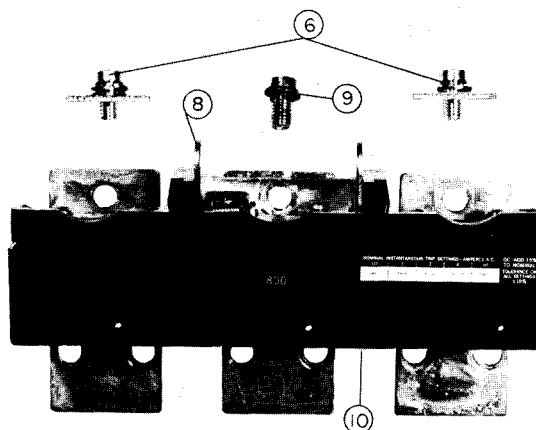
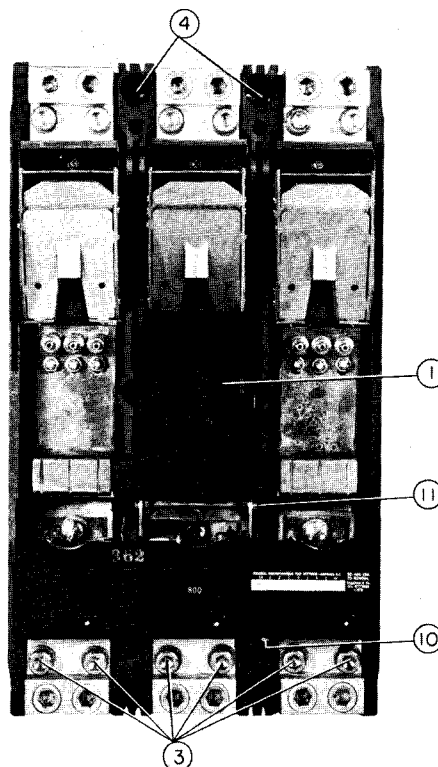

Fig. 2 — 3 Pole Trip Unit
Fig. 3 — Front View of Circuit Breaker
3. Remove rear connection stud terminal bolts (3, Fig. 3) and pull circuit breaker forward or away from rear connection studs.
3. Remove pressure wire connector mounting bolts (3, Fig. 3) and bend cables with connectors clear of circuit breaker.
2. On outside poles, remove screws with lockwashers and heater plates (6, Fig. 2), which hold mechanism braid terminals to base.
3. Hold breaker operating handle (1, Fig. 3) away from trip unit area. Lower trip unit carefully into base. Make sure that slots in trip unit latch
bracket (8, Fig. 2) engage latch pin on mechanism (11, Fig. 3).
4. Tighten trip unit anchor screw (9, Fig. 2) (center pole) securely to base.
5. Replace screws, lockwashers and heater plates (6, Fig. 2) on outside poles, previously removed in Step 2, and tighten securely.
2. Remove load end rear connection stud terminal bolts (3, Fig. 3) if circuit breaker is rear connected, pressure wire connector mounting bolts (3, Fig. 3) if circuit breaker is front connected, or tulip assembly mounting nuts, washers and lockwashers (3, Fig. 3) if circuit breaker is plug-in mounted.
3. Press metal button (10, Fig. 2) on right hand underside of trip unit cover. This will trip the breaker mechanism and the circuit breaker handle will move to the "TRIPPED" position.
4. Remove screws, lockwashers and heater plates (6, Fig. 2) on outside poles.
5. Remove trip unit anchor screw and lockwasher (9, Fig. 2) on mechanism pole.
6. Hold circuit breaker operating handle away from trip unit area. Lift trip unit out of circuit breaker base while holding the "TRIP" button (10, Fig. 2) depressed.